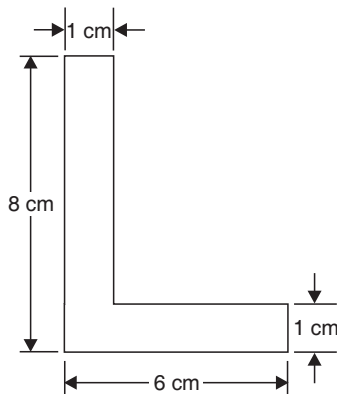

Fig. 5.17
**Example 5.1.** Find the moment of inertia about the centroidal axes  $XX$  and  $YY$  of the section shown in Fig. 5.17.